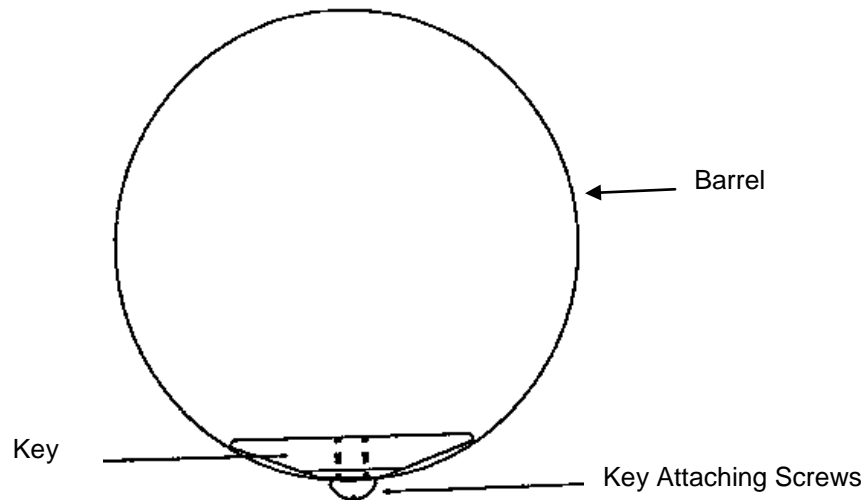

Figure 4.5-3
2. With the old screws or with the new screws provided with the new key, attach new flat barrel key (2928-xxx) into the inside diameter of the barrel, utilizing the existing key attachment holes. See Figure 4.5-3 for key configuration and placement of key in barrel.
NOTE: Widest flat dimension on the key must face inward. Refer to Figure 4.5-3.
- a. Slide the barrel over the jaw and into the housing. Make sure that the barrel key is on the bottom, as shown in Figure 4.5-3.